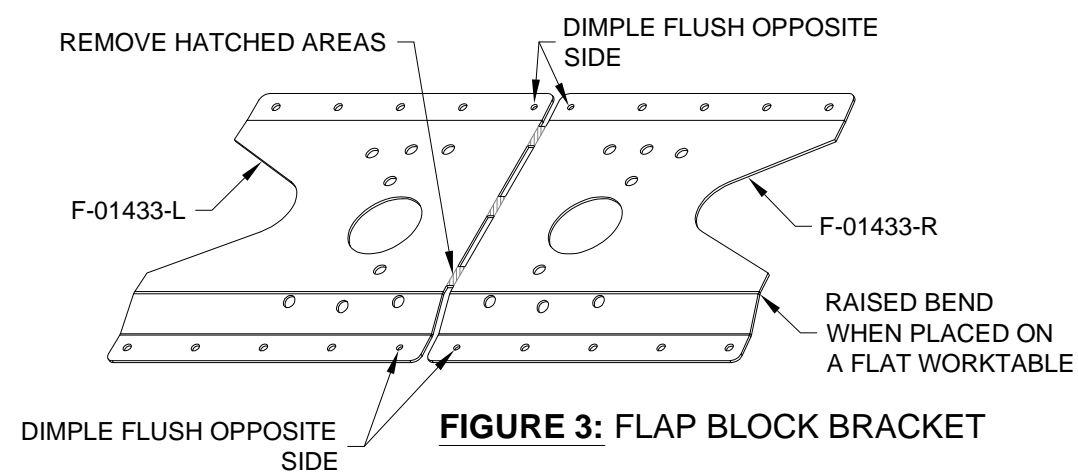

FIGURE 3: FLAP BLOCK BRACKET
Step 5: Dimple the four holes in the F-01433 Flap Block Brackets shown in Figure 3.
Step 6: Label and separate the flap block brackets as shown in Figure 3.